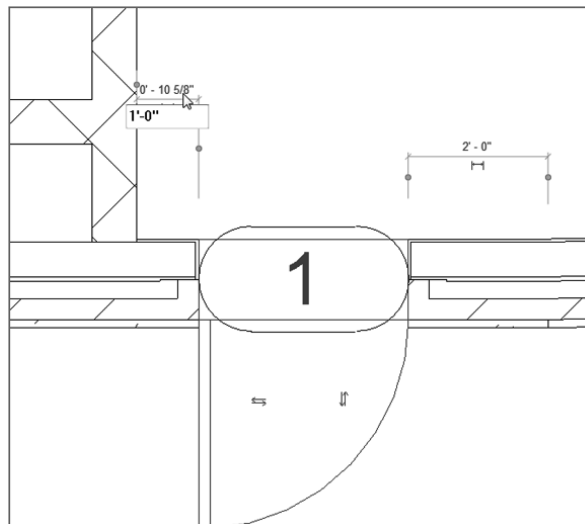

FIGURE 2.69: Changing the temporary dimension
3. As you know, in Revit anything that turns blue can be edited. Click the blue dimension that extends from the CMU wall, drag it to the right of the elevator shaft, and change it to 1'-0" (300 mm) (see Figure 2.69).